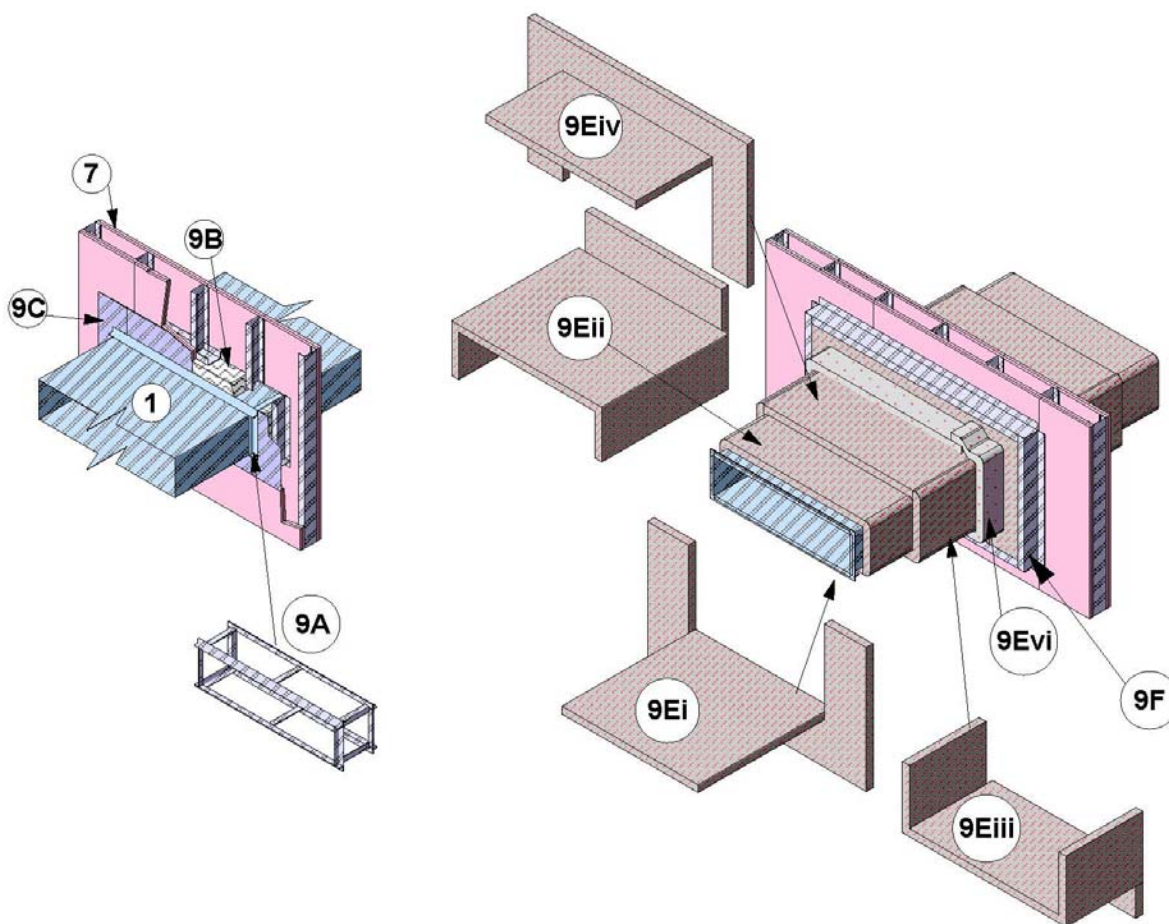

Figure 2
A. REINFORCEMENT CAGE – Install a reinforcement cage made from 32mm (1.25 in.) x 32mm (1.25 in.) x 5mm (3/16 in.) angle and 32mm (1.25 in.) x 5mm (3/16 in.) flat stock as shown in Figure 2. Bolt the two sides of the reinforcement cage with M8 (or equivalent) bolts. Center reinforcement cage in the supporting construction. Once centered, bolt the reinforcement cage to the Ventilation Air Duct (Item 1) using M8 bolts (or equivalent) spaced max.